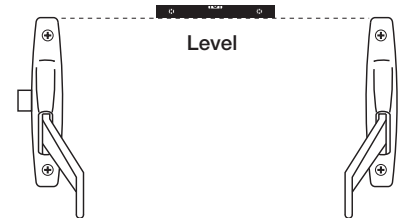

Figure 5
If bolt has dogging function, undog cases using furnished key in side of case by loosening lock-down screw. (Figure 5)
3. Be sure cases are level. (Figure 5)